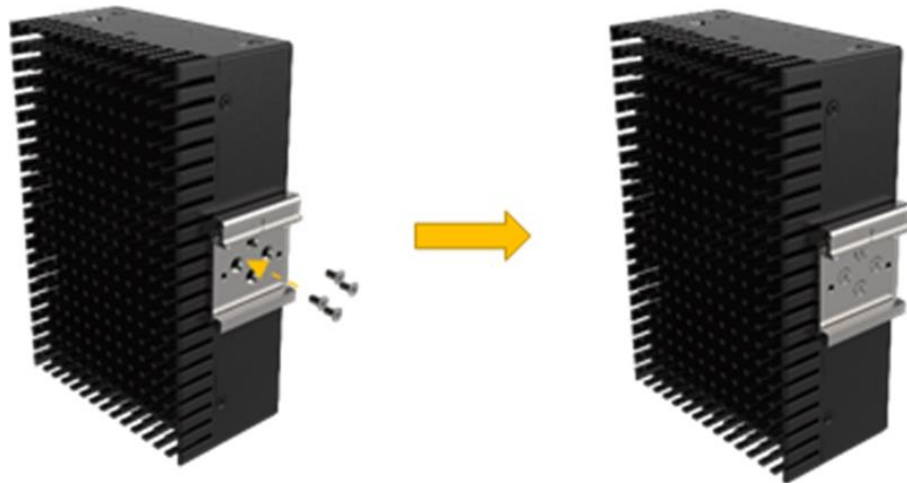

Figure 3-19: DIN Rail Mounting Bracket Installation
Step 3: Secure the brackets to the system by inserting retention screws (Figure 3-19)